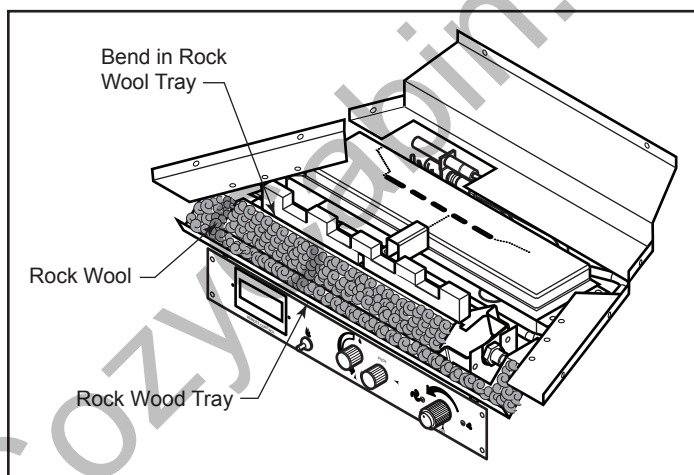

Figure 13 - Rock Wool Installation
2. Place rock evenly across rock wool tray and front burner as shown in Figure 13.